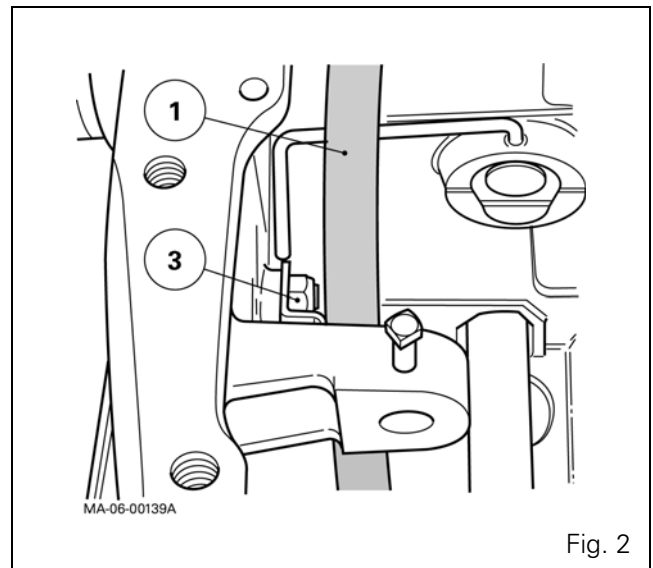

Fig. 2
- Stud (46) (Fig. 2)
- it also holds the left-hand flange (9) via nut (42),
- it supports pipe (47) coming from the driving pinions on the PTO line. This pipe ensures lubrication of the pilot bearing located at the end of the drive pinion.